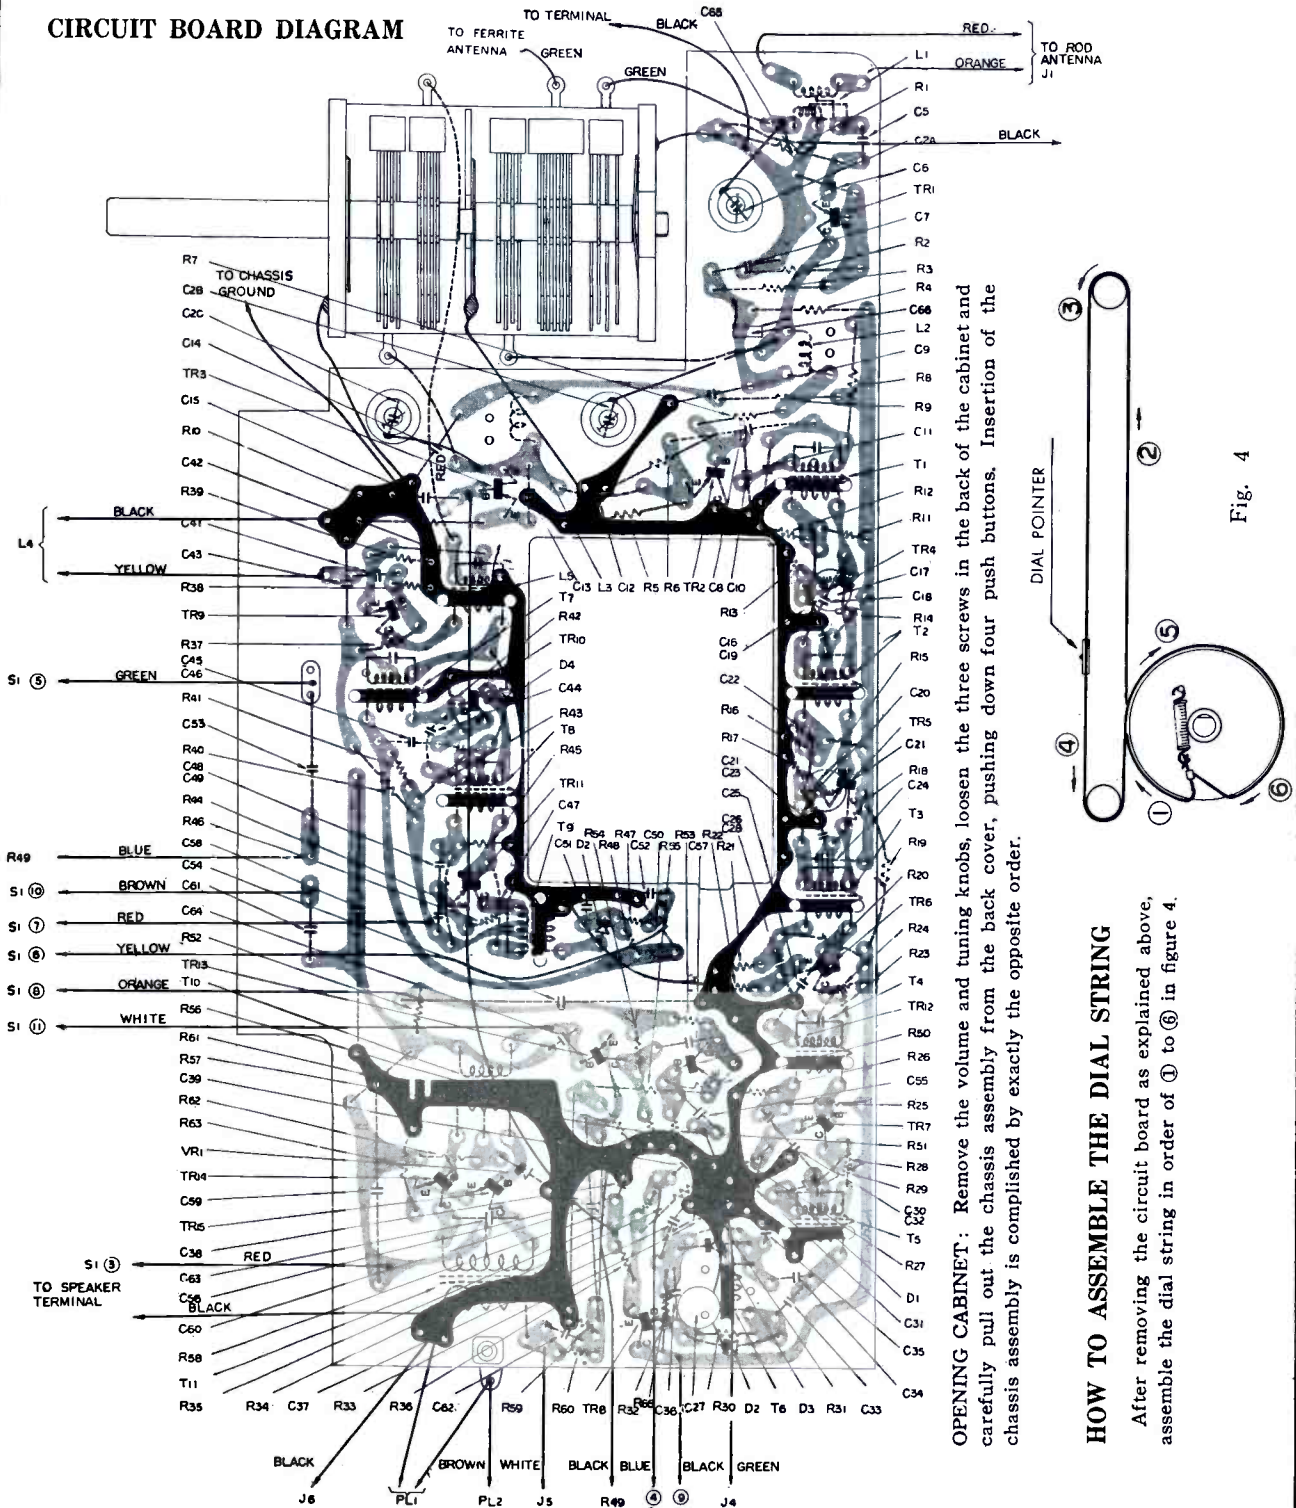

Fig. 4
After removing the circuit board as explained above, assemble the dial string in order of ① to ⑥ in figure 4.